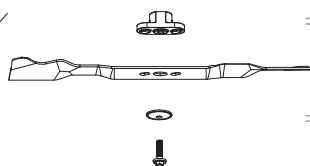
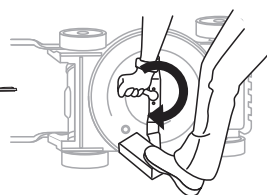

Fig.12B
Fig.12C
- Align the washer over the blade and insert the hex bolt. Tighten the hex bolt to the torque (Fig.12B/Fig.12C)